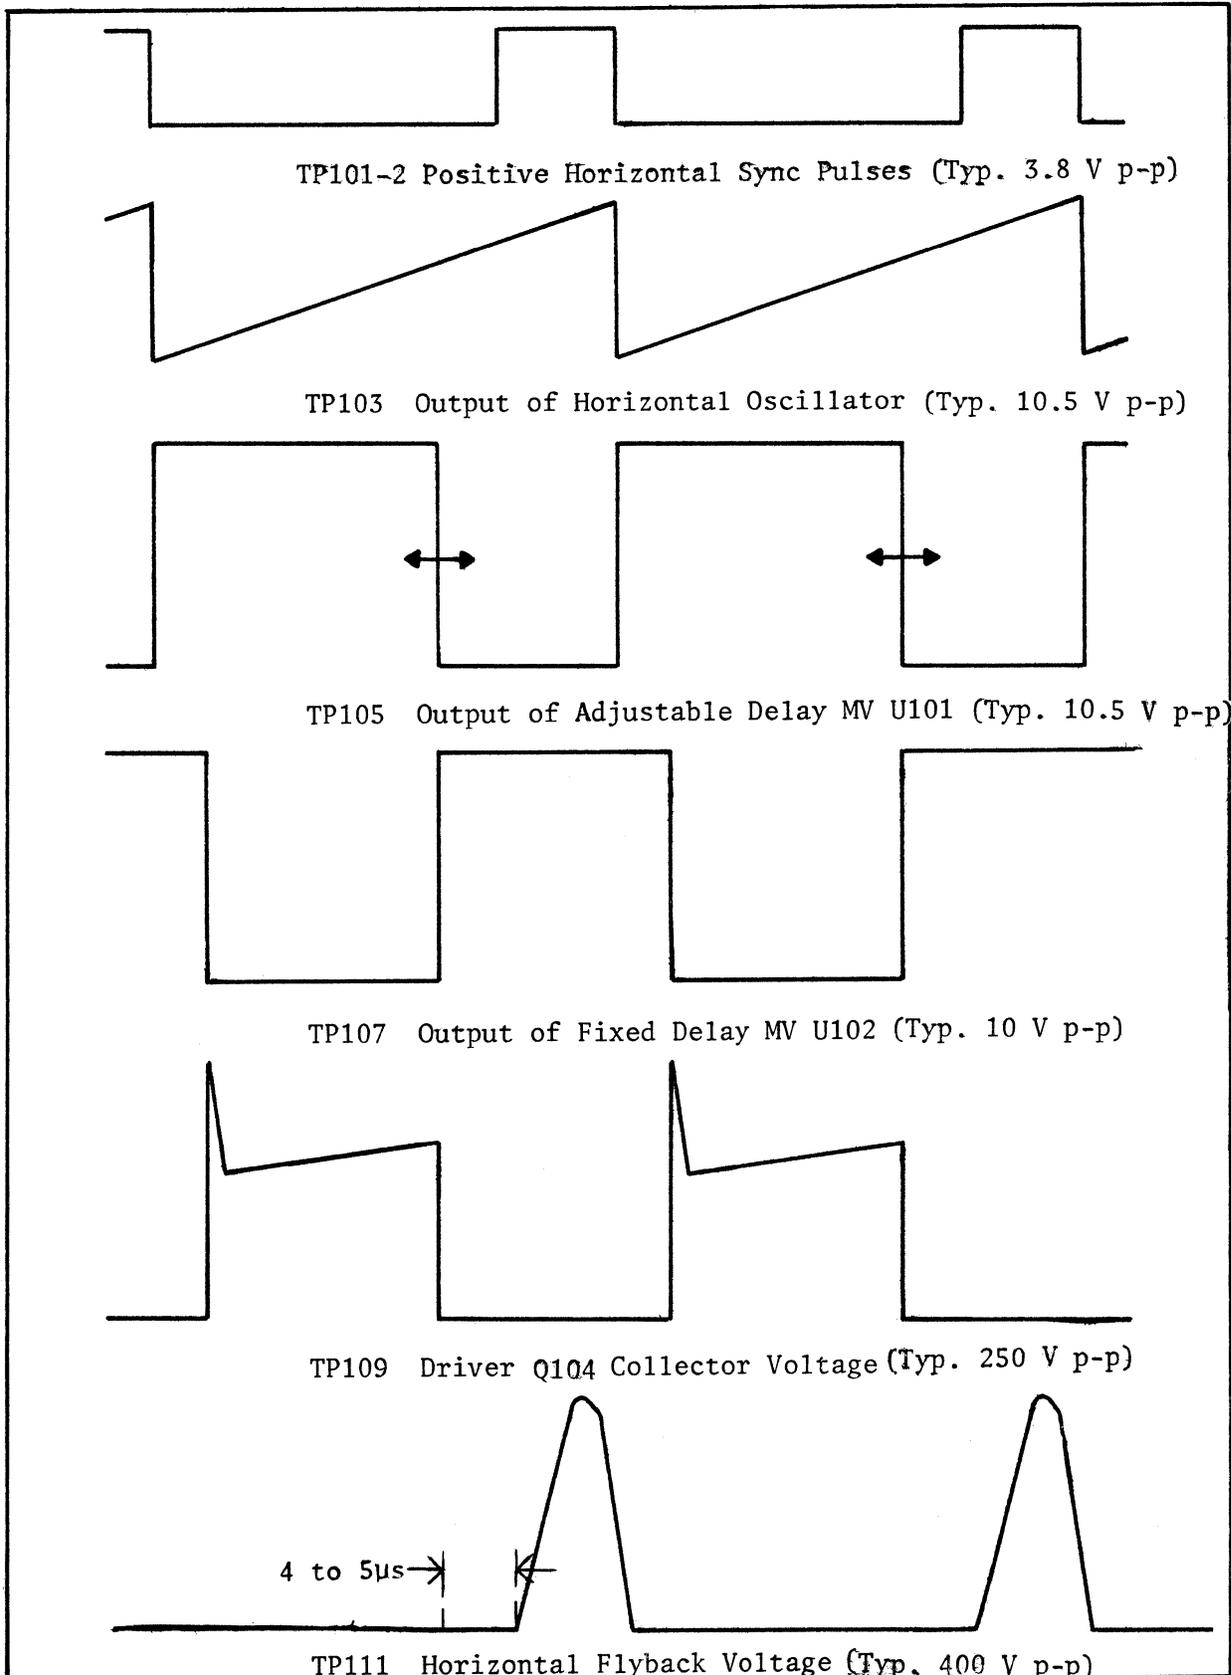

Figure 4.1 Horizontal Timing
4.3.2 Horizontal Section (Refer to Figure 4.1 for Timing Diagram)